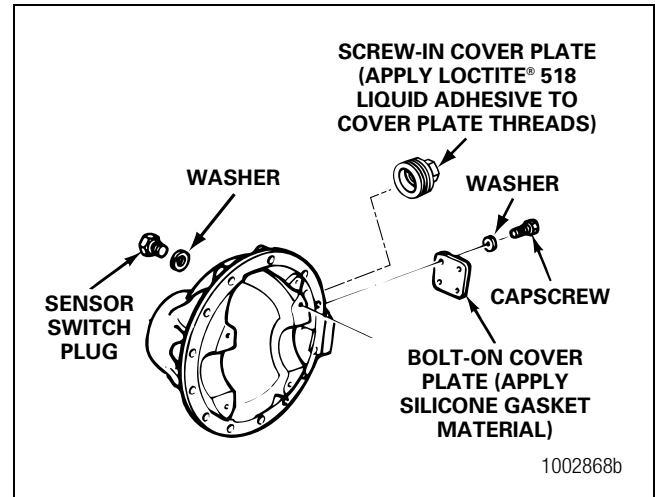

Figure 6.18
3. Install the four washers and capscrews. Tighten the capscrews to 7.4-8.9 lb-ft (10-12 N•m). Figure 6.18.